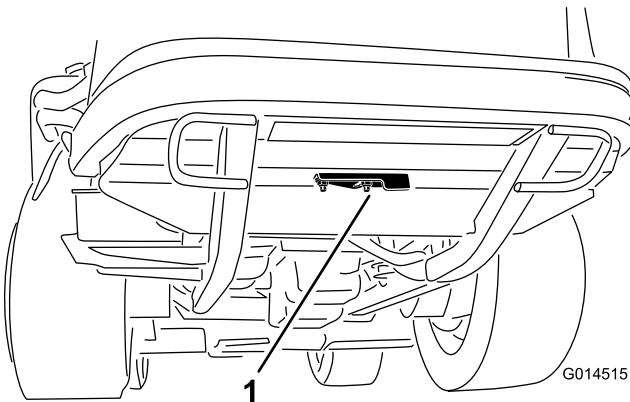

Figure 42
2. Loosen the flange nut securing the clean out cover to the underside of the rear frame (Figure 42). Rotate the cover to the side to expose the clean out hole in the frame.